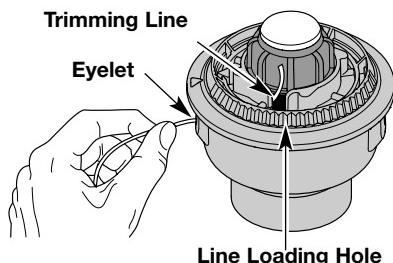

Fig. 20
1. Before installing new trimming line in the existing inner reel, pull old line out of the line loading and line locking holes (Figs. 20 and 21).
4. Insert a piece of trimming line into one of the two eyelets in the outer spool. Push it up through the line loading hole in the inner reel (Fig. 20). Do not bend the line when inserting it into the eyelet.